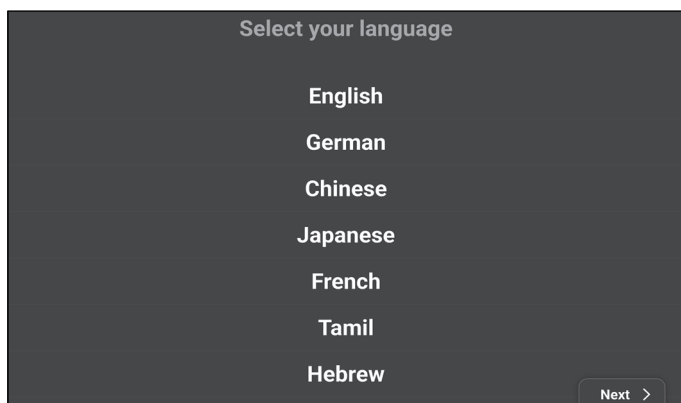

Figure 13
2. Select your preferred language (**Fig. 13**).